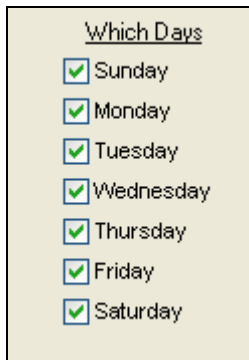

Figure 13.0.7
- In the “**Which Days**” section of the screen turn on the days that you want to poll on by checking the appropriate box next to the day (Figure 13.0.7).